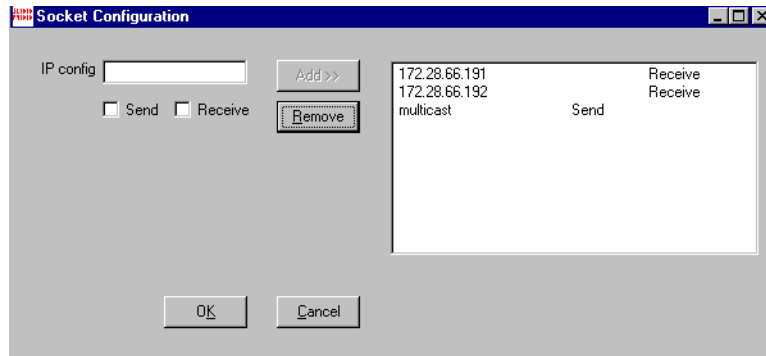

Figure 448. Socket Configuration for EH1
- 3. Repeat step 2 for EH3, substituting the correct IP address (**172.28.66.192**) in the IP config field. The finished configuration for EH1 is shown in Figure 448.